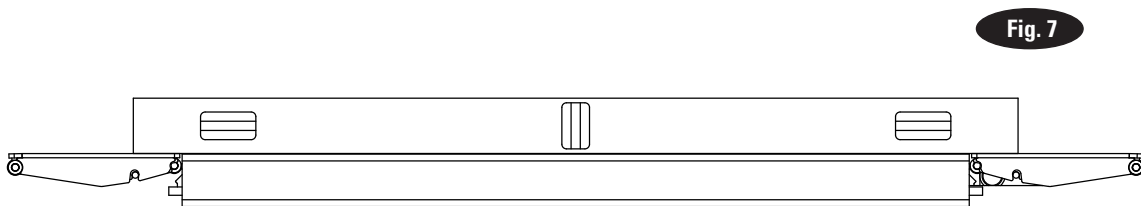

Fig. 7
4. Verify platform is level, Fig. 7.